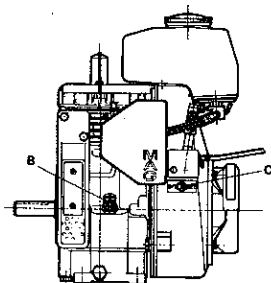

Fig. 1
Fill the fuel tank with regular petrol (minimum octane number 86 RON = two star rating) by means of a sieve funnel. Check the engine oil level with the dip stick (B, Fig. 1) screwed completely in (engine in horizontal position). The oil quantity should be maintained at a level between the max. and min. marks shown on the dip stick. Check the air filter; if necessary, clean. (Please observe the instructions contained in the maintenance chart on page 4).
- a) When running with petrol: Put the engine into idling speed and operate the stop switch (C, Fig. 1). Close the fuel cock.
- b) When running with paraffin: Switch the fuel cock over to "petrol" position and let the engine run for 2 - 3 minutes. Then put the engine into idling speed and operate the stop switch (C, Fig. 1). Close the fuel cock.